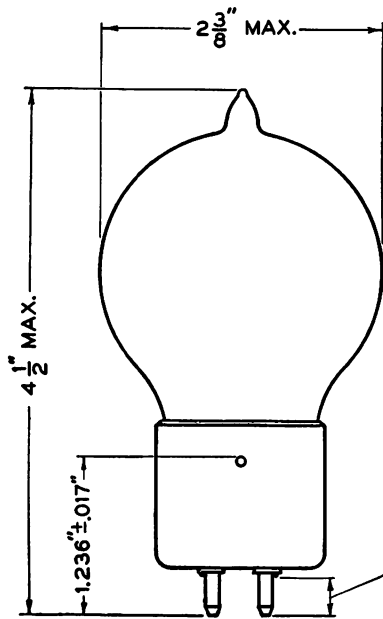

FIG. 1
**Dimensions—**Dimensions, outline diagrams of the tube and base, and the arrangement of the electrode connections to the base terminals are shown in Figures 1 and 2.
**Dimensions and Connections—**The outline diagrams of the tube and base, giving the dimensions and the arrangement of the electrode connections to the base terminals are shown in Figures 1 and 2.